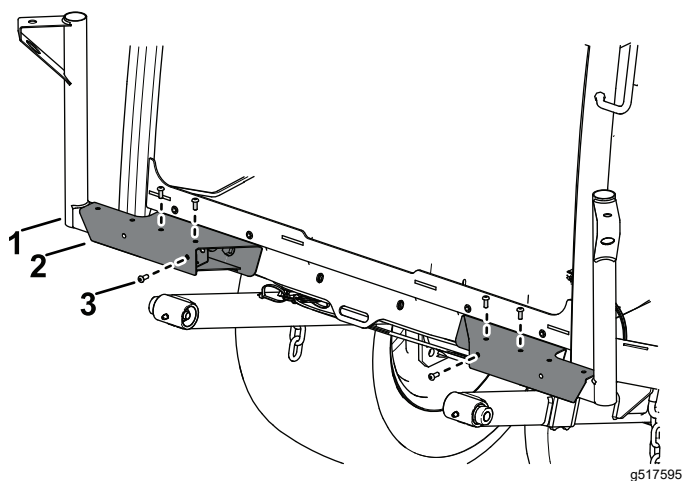

Figure 15
2. Secure the left light mount and right light mount to the light bases using 3 button-head bolts (1/4 x 5/8 inch) through the speed nuts on each side (Figure 15).